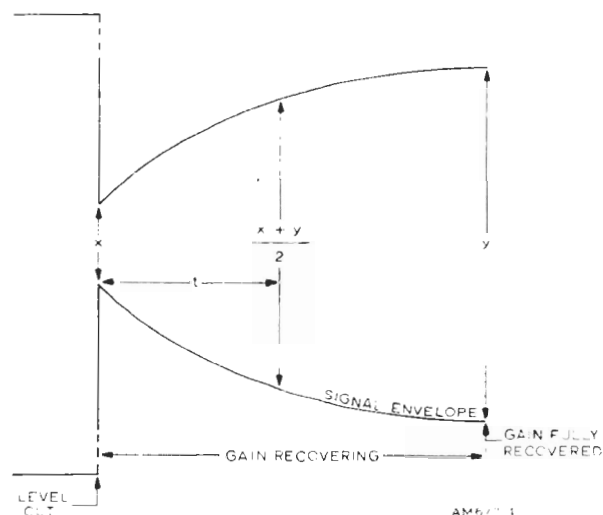

Fig. 4. Gain Recovery Characteristic
Performance Tests (Figs. 4 and 5)
10. Gain-recovery Times (Fig. 4)
suitable slow speed, say 0.5 cm/s. Suddenly reduce the main input by 20 dB and observe the oscilloscope trace, which should be as shown in Fig. 4.